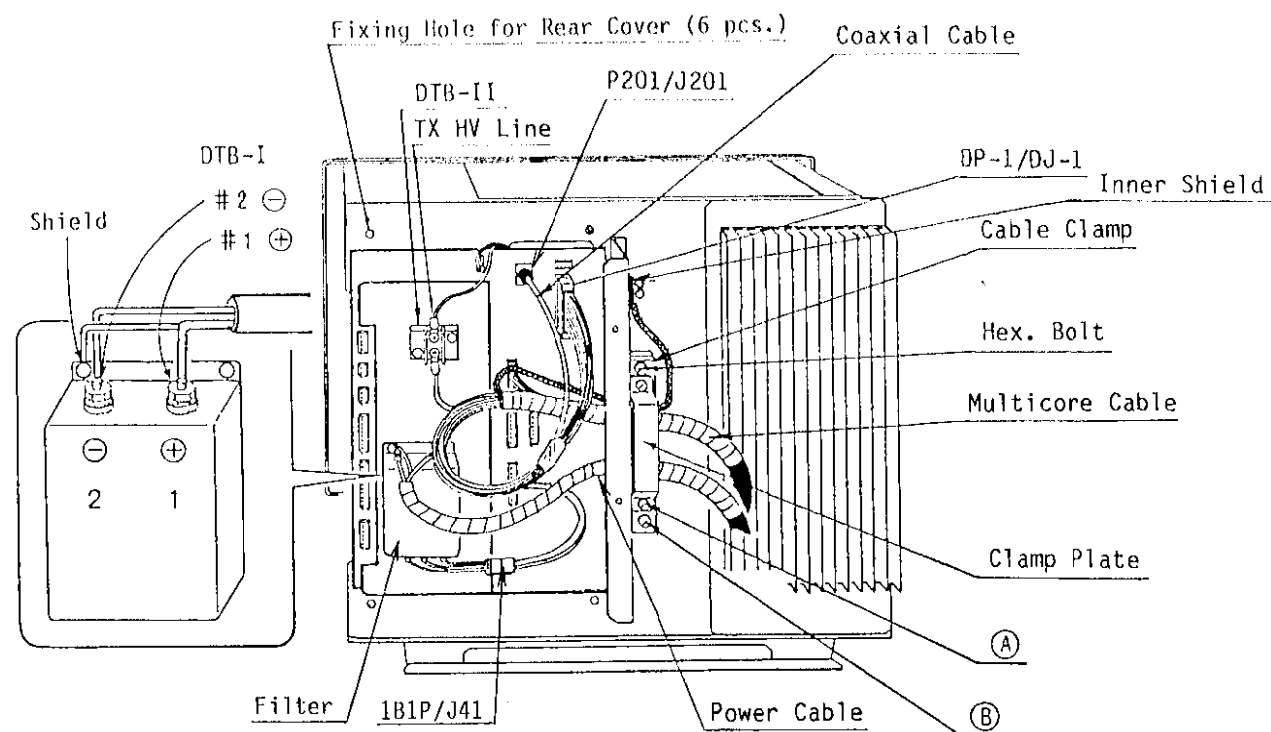

Fig.8 Rear Side View of Display Unit
- 4) Remove the rear cover by loosening six fixing screws. See Fig.8.
- 5) Separate the clamp plate from the cable clamp by loosening two hex. bolts (A). Then secure the multicore cable and power cable to the cable clamp with the clamp plate so that the cable shield is completely grounded thru the cable clamp. See Fig.8.
- 6) To fix the cables of optional units, use the cable clamp by loosening two hex. bolts (B).
- 7) Connect 28P plug (DP-1), coax. plug (P201), 4P flying connector plug (1B1P41) and flying HV lead wire to 28P jack (DJ-1), coax. jack (J201), 4P jack (1B1J41) and terminal DTB-II #5 respectively as shown in Fig.8.
- 8) Ground the inner shield of the multicore cable to the display chassis as shown in Fig.8.
- 9) Connect the power cable to the terminals on the line filter; positive core to DTB-I #1 and negative core to DTB-I #2. Connect the shield of the power cable to the fixing screw for the filter. See Fig.8.